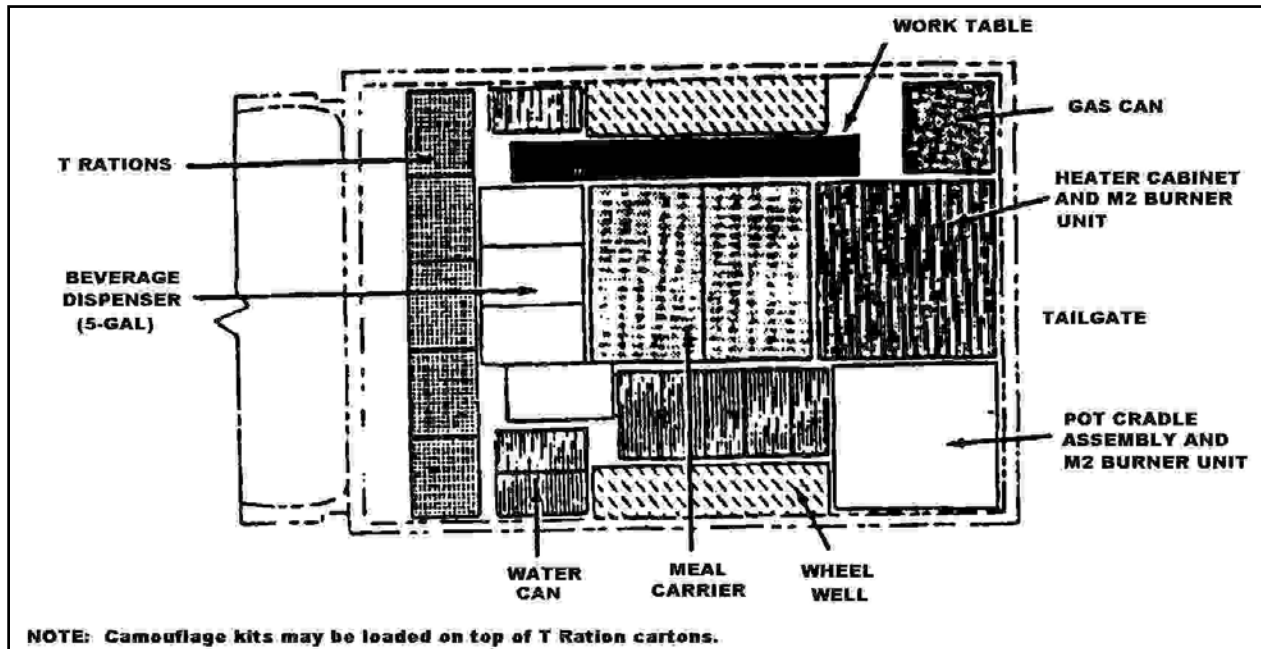

Figure 3-35. KCLFF Packed for Movement on a CUCV
- a. Check the load plan for CUCV (see Figure 3-35).